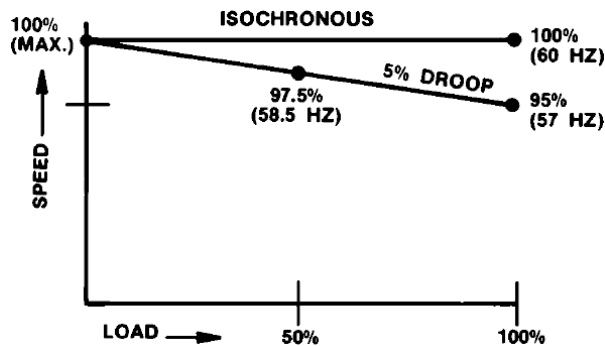

Figure 2-9. Droop Definition
3. Adjust DROOP potentiometer to give the desired speed. Operating at 60 Hz, 57 Hz at full load indicates 50/0 droop. If only 500/0 loading is possible, 58.5 Hz would indicate 5% droop. See Figure 2-9, Droop Definition.